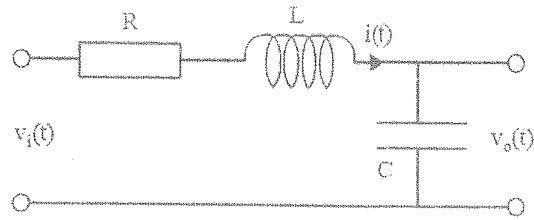

Figure Q1 (b): LCR Circuit
b) Consider the LCR electrical network shown in Figure Q1 (b).